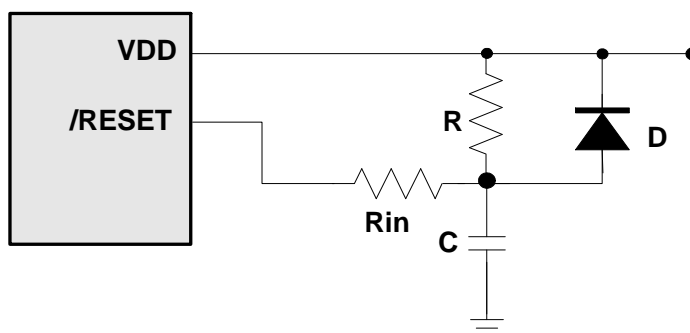

Figure 6-10 External Power-on Reset Circuit
This circuit implements an external RC to produce a reset pulse (see Figure 6-10). The pulse width (time constant) should be kept long enough to allow VDD to reach minimum operation voltage. This circuit is used when the power supply rise time is slow. Because the current leakage from the /RESET pin is $\pm 5 \mu\text{A}$, it is recommended that R should not be greater than 40K. In this way, the voltage at Pin /RESET is held below 0.2V. The diode (D) acts as a short circuit at power-down. The capacitor, C, is discharged rapidly and fully. Rin, the current-limited resistor, prevents high current discharge or ESD (electrostatic discharge) from flowing into Pin /RESET.